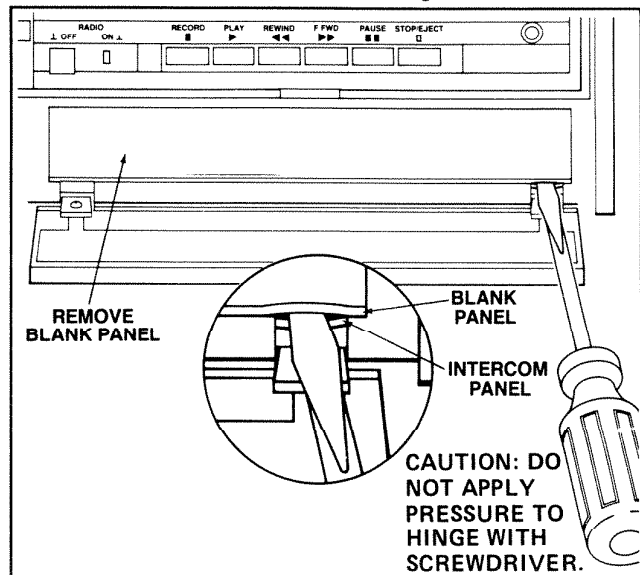

FIGURE 3
1. Removing blank panel. Refer to Figure 3.